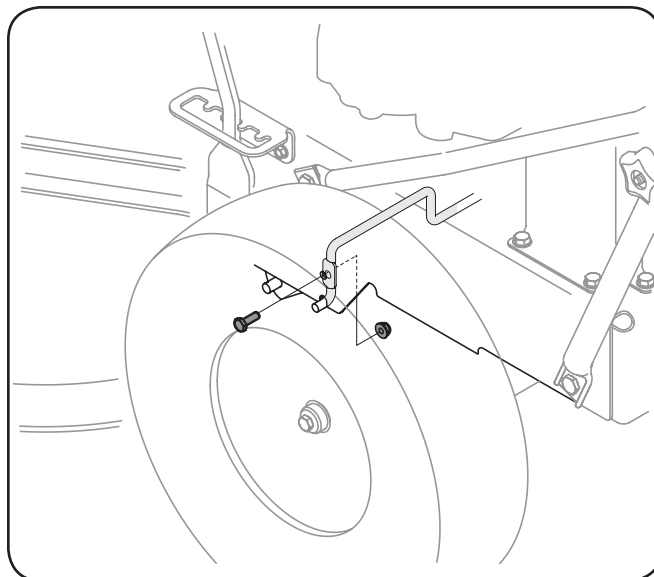

Figure 7-2
5. Remove the screw and flange nut which secures the belt keeper rod to the left side of the mower's frame. See Fig. 7-2.
3. Remove the belt keeper as instructed earlier in this section. See Fig. 7-2